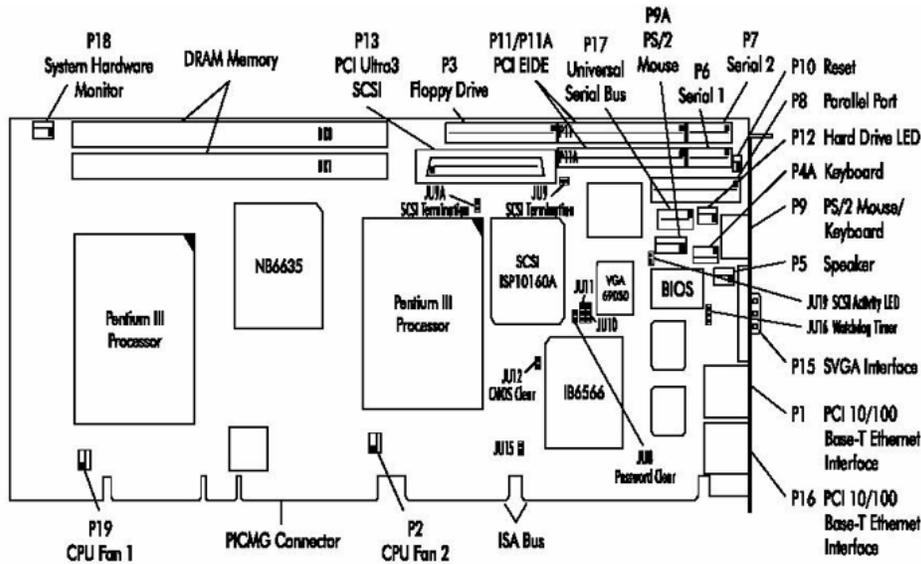

Figure 37: SBC card location
This section describes the Pentium III SBC card (single board card). It covers procedures for replacing and configuring the SBC card. The SBC card is always installed in the SBC slot located between the ISA expansion slots and the PCI slots on the backplane. Refer to Figure 37: SBC card location on page 138 for SBC card location.
4. Disconnect and label all cables from the SBC card. See SBC card connectors and jumpers. Refer to Figure 37: SBC card location on page 138 to locate the SBC card.